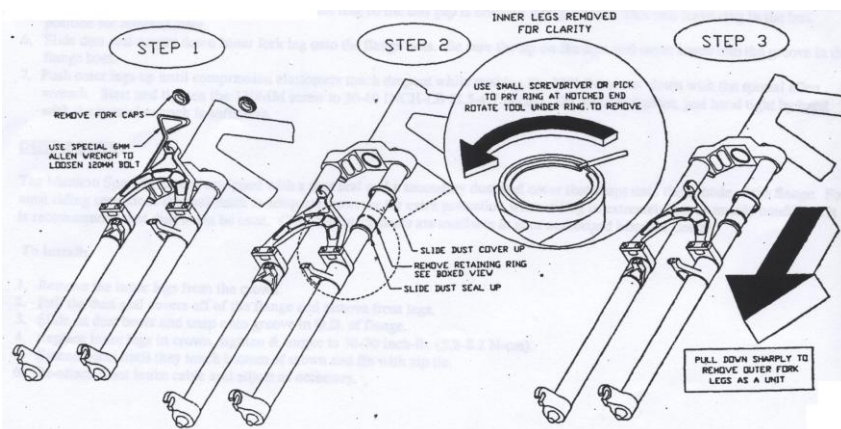

Figure 1
4. Use a small screwdriver to remove retaining ring.(Figure 1)